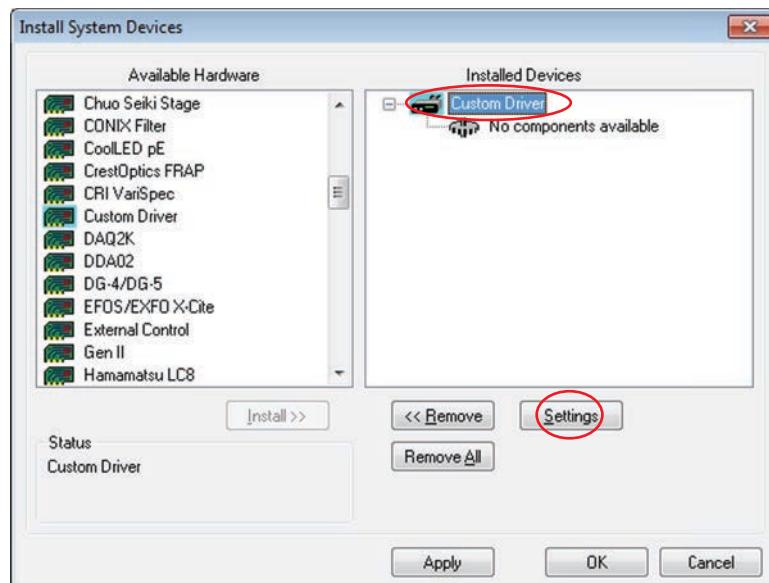

Figure H-12. Apply Settings to the Custom Driver
7. Click the directory for **Custom Driver** in the right column, and then click Settings, as shown in Figure H-12.